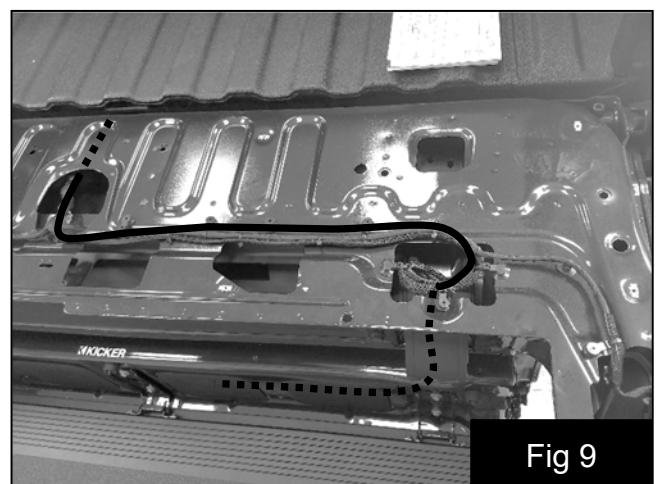

Fig 9
14. Continue to route the amplifier harness along the factory harness to the underneath side of the bed near the back side of the trailer connector. Secure amplifier harness to factory harness with supplied wire ties. Fig 9